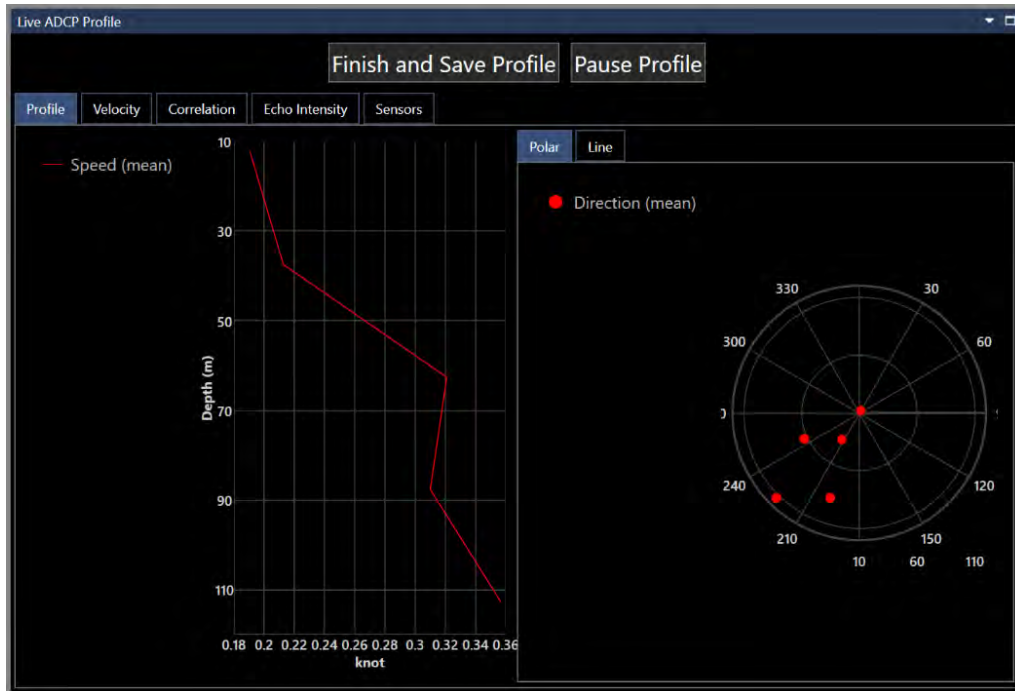

FIGURE 18-23 LIVE ADCP PROFILE – CHART VIEW
3. Click Start Profile, this opens the profile chart showing live ADCP data (see Figure 18-23)